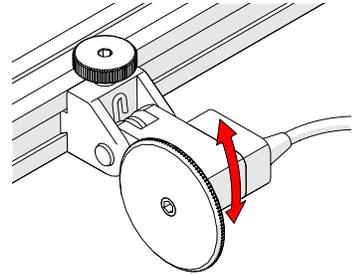

Fig. 37 - Place on scan surface
3. Spring tension maintains encoder contact with the scan surface (Fig. 37).